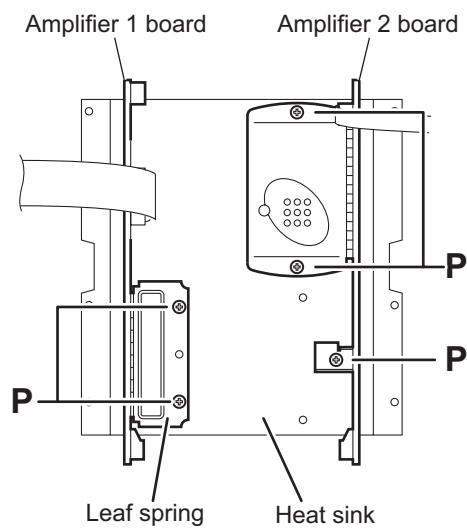

Fig.18
- (4) Take out the amplifier 1 board and amplifier 2 board together from the main body.
- (5) Remove the two screws **P** and remove the leaf spring. (See Fig.18)
- (6) Remove the two screws **P** and remove the amplifier 1 board from the heat sink. (See Fig.18)
- (7) Remove the four screws **P** and remove the amplifier 2 board from the heat sink. (See Fig.18)
- (4) Take out the amplifier 1 board and amplifier 2 board together from the main board.
- (6) Remove the two screws **P** and remove the amplifier 1 board from the heat sink. (See Fig. 18) [For DX-T77]
- (7) Remove the three screws **P** and remove the amplifier 2 board from the heat sink. (See Fig.18)